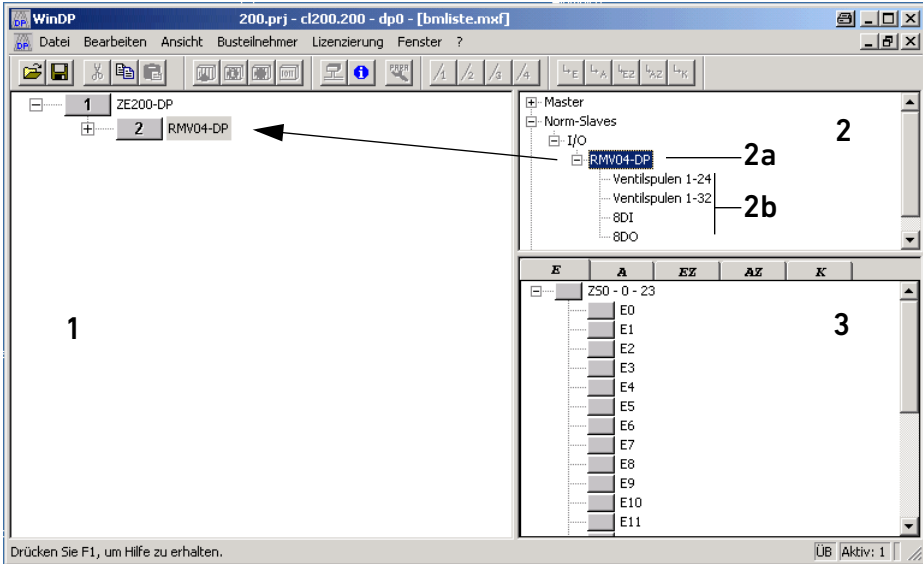

Fig. 13: WinDP editor dialog window, window designations
1. Access the WinDP editor dialog window (see Fig. 13).